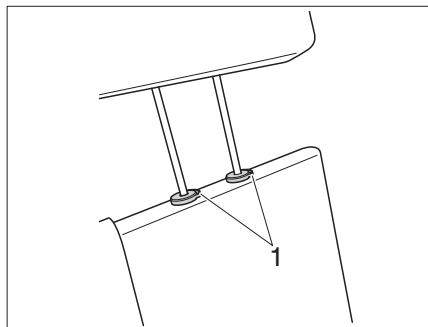

Fig. 12 Headrest for bench seat (Variant 2)
- Press both safety catches (Fig. 12,1) to adjust or remove the headrests.